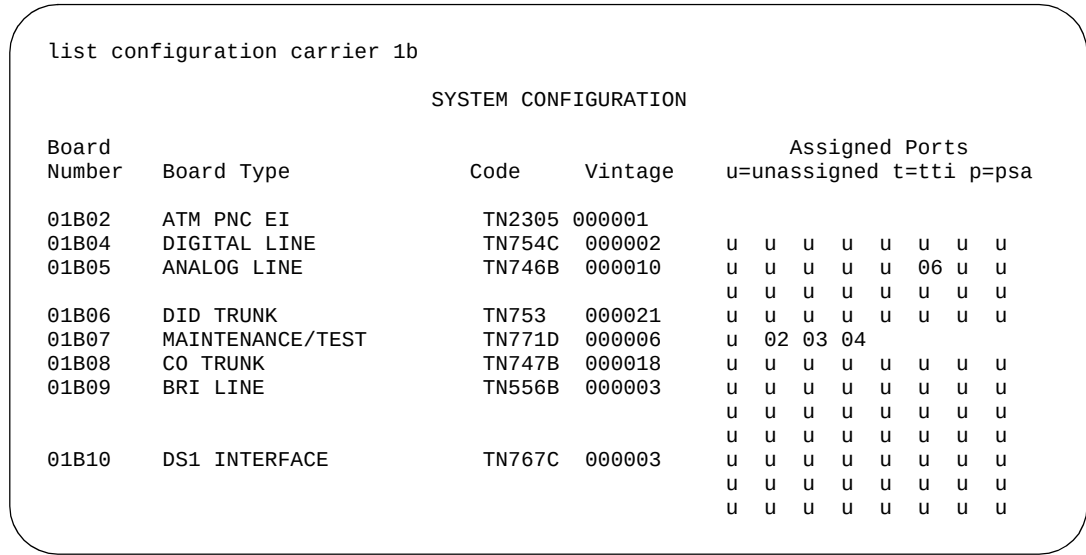
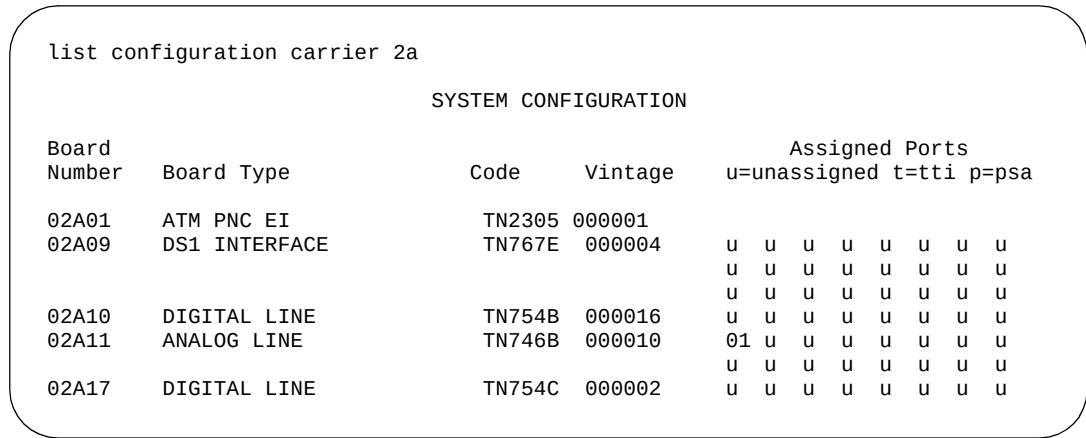

Figure 1-45. List configuration carrier 1b screen
Figure 1-46. List configuration carrier 2a screen
3. Enter **list configuration carrier cabinetcarrier** on the DEFINITY SAT. See Figure 1-45 (1b) and Figure 1-46 (2a) below.